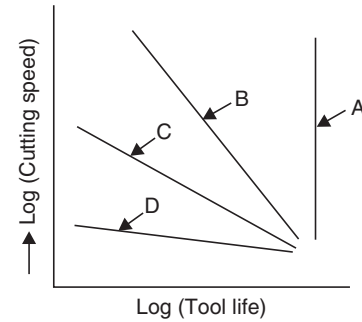

FIGURE 12.1
46. Figure 12.1 shows the plots of log of tool life versus log of cutting speed for different tool materials. Curve A holds good for
47. In Fig. 12.1, the curve B holds good for
48. In Fig. 12.1, the curve C holds good for
49. In Fig. 12.1, the curve D holds good for